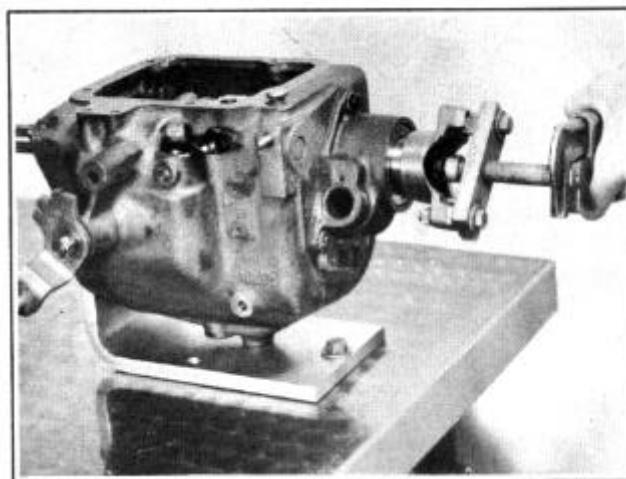

FIGURE 32
3. Remove companion flange, using puller (J-820), Figure 32.